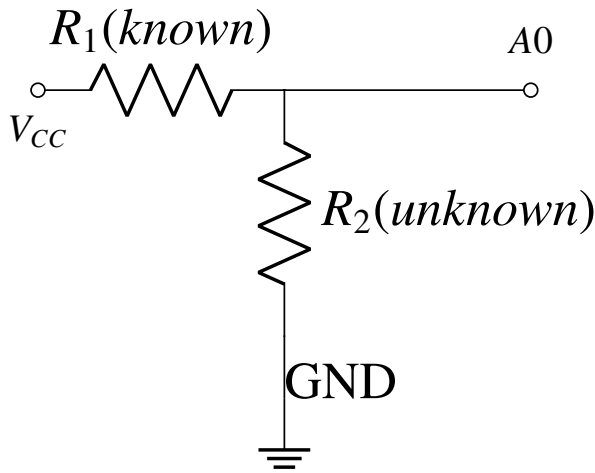

Fig. 3.3.1: Voltage Divider
- 3.3. Let R_1 be the known resistor and R_2 be the unknown resistor. Connect R_1 and R_2 in series such that R_1 is connected to V_{cc} and R_2 is connected to GND. Refer to Fig. 3.3.1
- 4.4. The Ohm meter in this manual works on the principle of the voltage divider shown in Fig. 3.3.1.